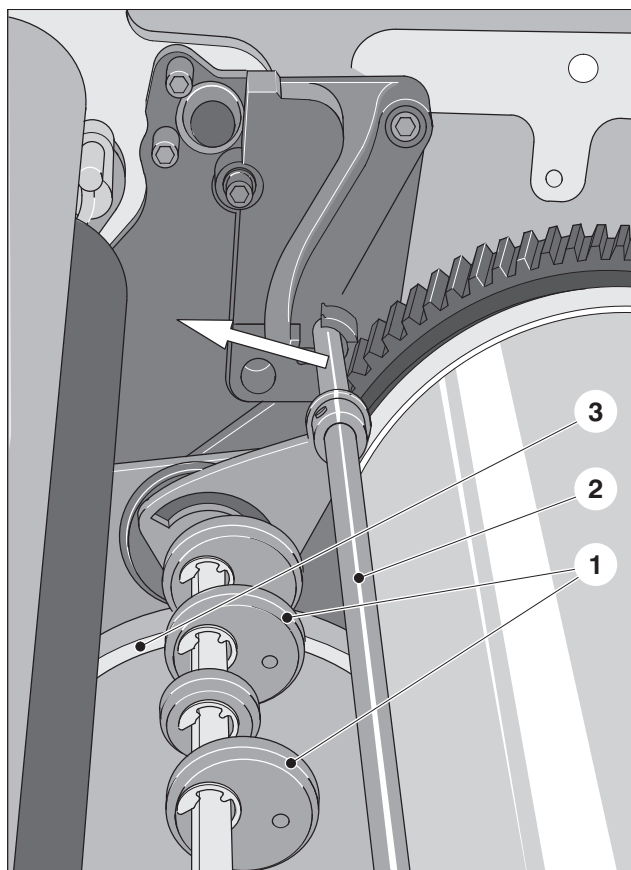

Fig. 6 Removing the cross bar
1. Press the cross bar (Fig. 6/2) with the pressing rollers for feeding the plates (Fig. 6/1) towards the feeder (Fig. 6, arrow). Take the cross bar out of the bearing on O.S. first.
2. Pull the cross bar with the pressing rollers (Fig. 6/1) out of the bearing on D.S. and take it out of the press.